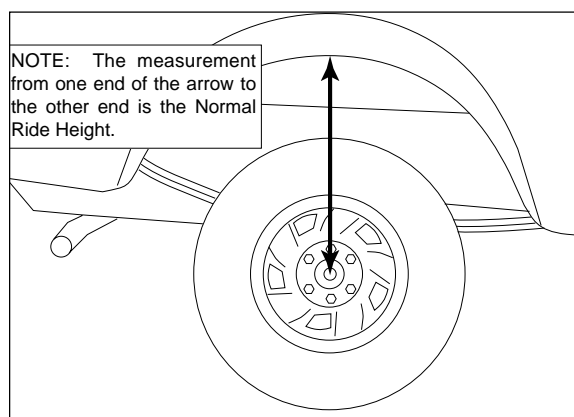

Figure 2
2. Measure the distance between the center of the hub and the bottom edge of the wheel well (Figure 2). This is the Normal Ride Height. Enter the measurement below: